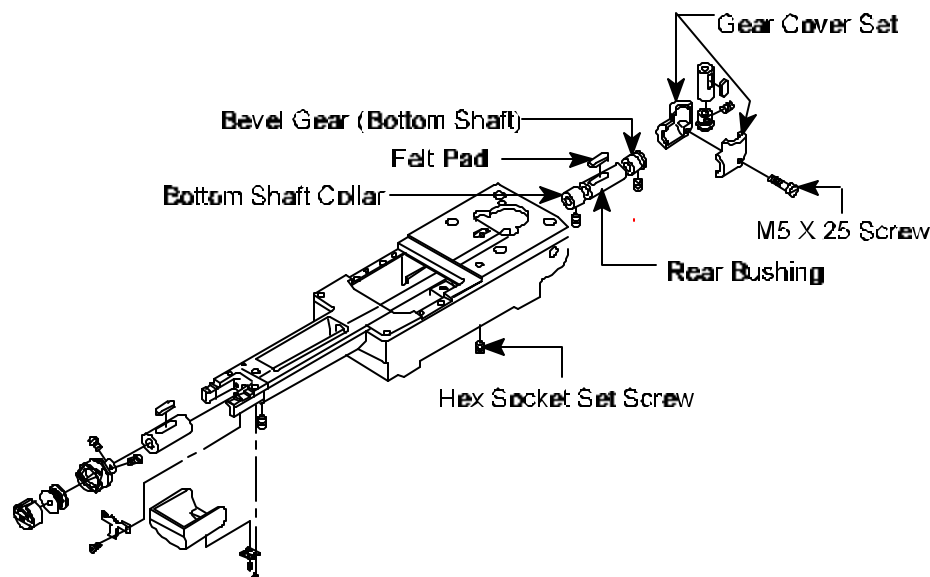

Figure 2
13. Using Flathead Screwdriver, **loosen** and **remove** M5 x 25 screw from Gear Cover Set (Grease Elbow). See Figure 2.
14. Using 3 mm Allen Wrench, **loosen** two screws on bottom shaft collar. See Figure 2.
15. Using Flathead Screwdriver, **loosen** two screws on bottom shaft bevel gear. See Figure 2.